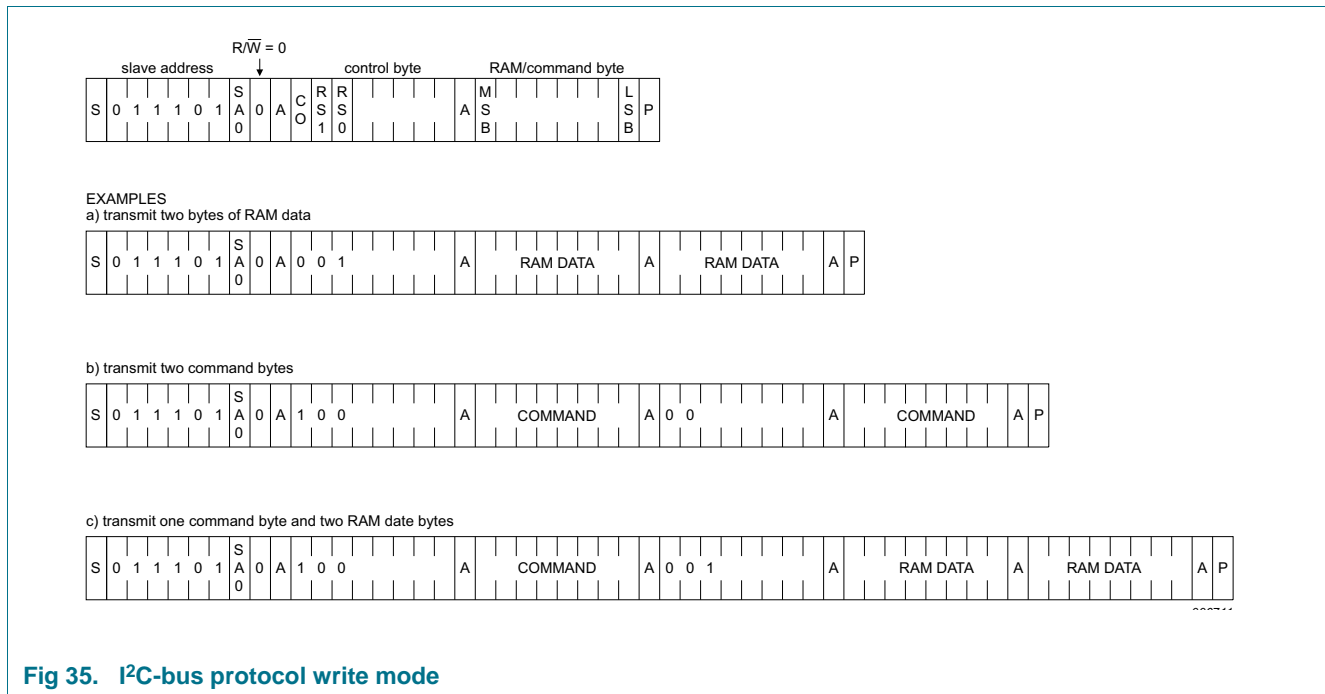

Fig 35. I2C-bus protocol write mode
The I2C-bus protocol is shown in Figure 35. The sequence is initiated with a START condition (S) from the I2C-bus master which is followed by one of the two slave addresses available. All PCA8539 with the corresponding SA0 level acknowledge in parallel to the slave address, but all PCA8539 with the alternative SA0 level ignore the whole I2C-bus transfer.